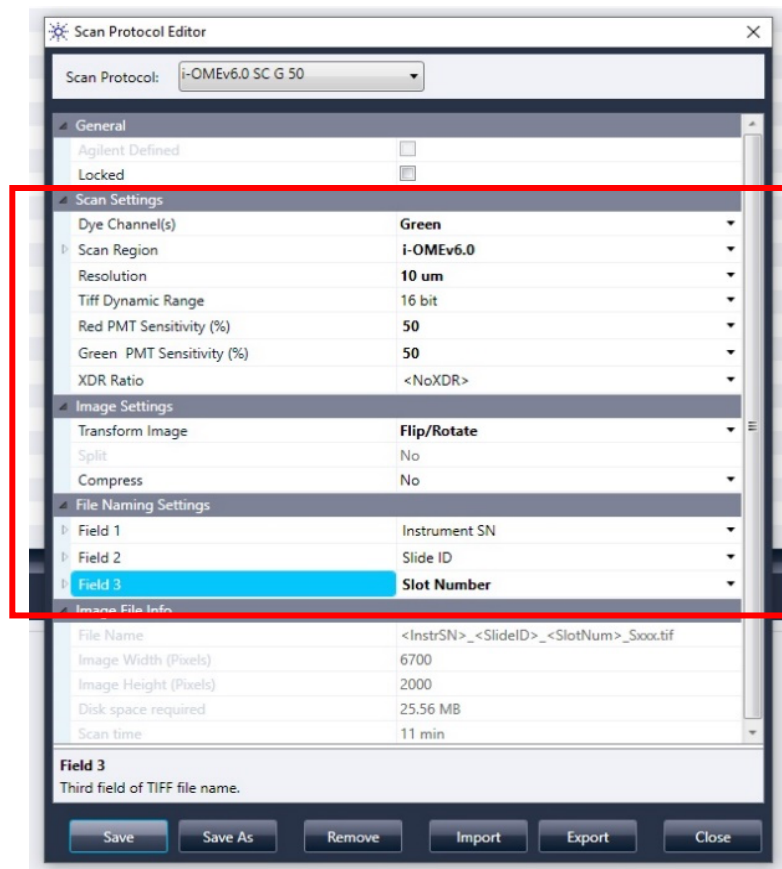

Figure 9 Scan protocol settings (Image example for 1-plex array format, single colour)
- iii. Change the scan, image, and file naming settings according to the slides and assay types. For example, if user run i-Ome® slides and Single Colour assay, the scanning protocol settings will be set as shown in Figure 9 below.